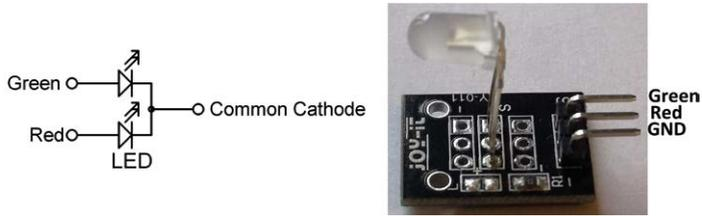

Figure 1.3 Sensor KY-011
**Sensor Used:** Sensor KY-011 is used in this project. This sensor consists of a red and green colour LED housed in a package with a common cathode terminal. The sensor and its pins are shown in Figure 1.3. The sensor has 3 pins: red LED pin, green LED pin and GND pin. **The green LED pin is marked with letter S on the board for identification.** An LED is turned ON when logic 1 is applied to its pins. The basic specifications of this sensor are as follows: